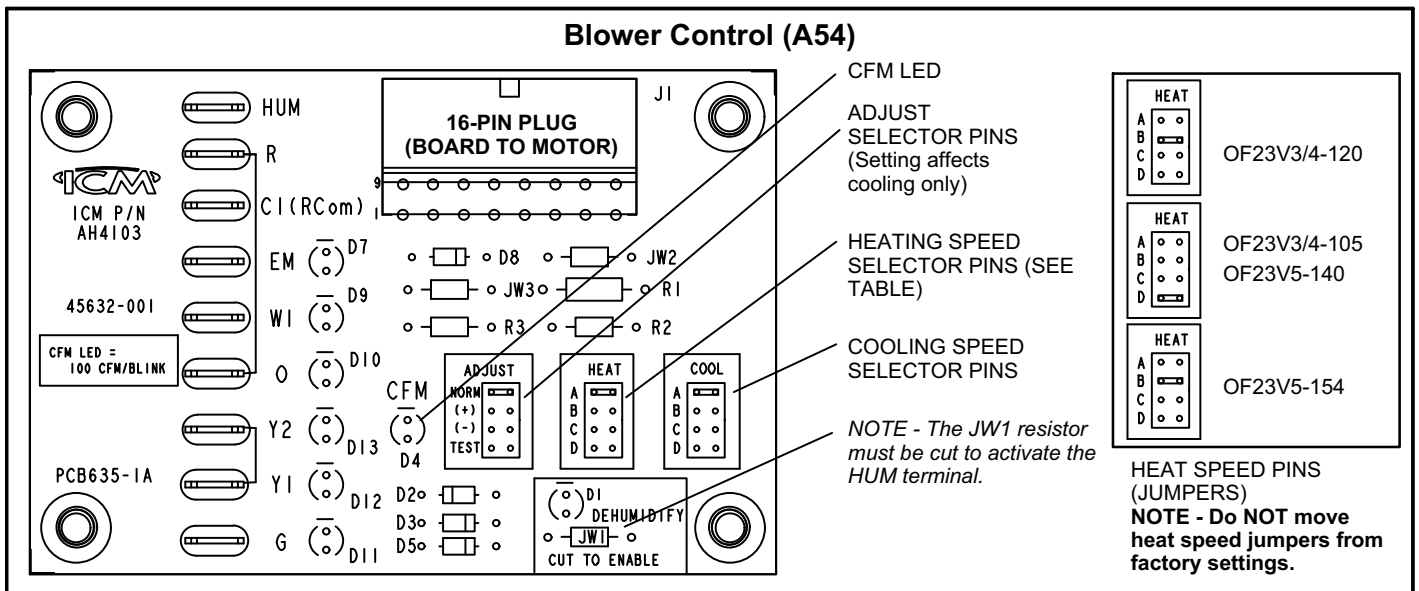

Figure 18
- 6 - A 24V dehumidistat or ComfortSense® 7000 input (from terminal D) can be connected to the reverse-acting HUM terminal on the A54 blower control. See figure 18.
The units are factory-set for nominal airflow for each model. Figure 18 shows the blower control. Use table 7 to determine the correct air volume for operation in heat and cool mode.
To change jumper positions, gently pull the jumper off the pins and re-position it across the pins that will give the desired blower speed. The following section outlines the different jumper selections available and conditions associated with each one (see figure 18).
The A54 blower control (see figure 18) includes a HUM terminal which provides for connection of a humidistat. The JW1 jumper on the blower control must be cut to activate the HUM terminal. The humidistat must be wired to open on humidity rise. When the dehumidification circuit is used, the variable speed motor will reduce the selected air flow rate by 18% when humidity levels are high. An LED (D1) lights when the blower is operating in the dehumidification mode.